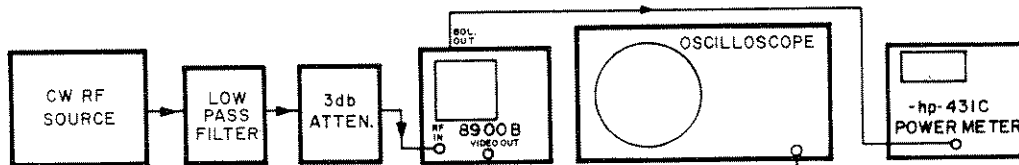

Figure 5-7. Meter Calibration Setup
a. Connect the equipment as shown in Figure 5-7